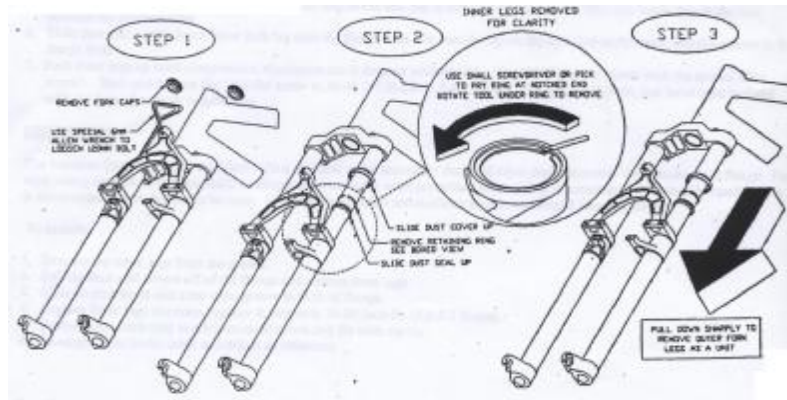

Figure 1
5. Use a small screwdriver to remove retaining ring.(Figure 1)